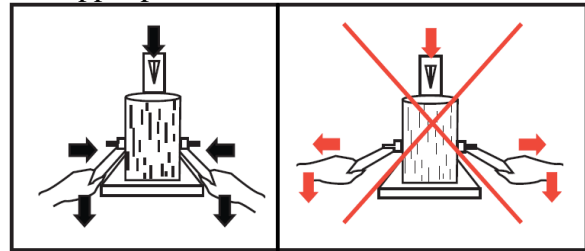

Fig.13
4. Lower the control levers to start the splitting (see Fig.13).